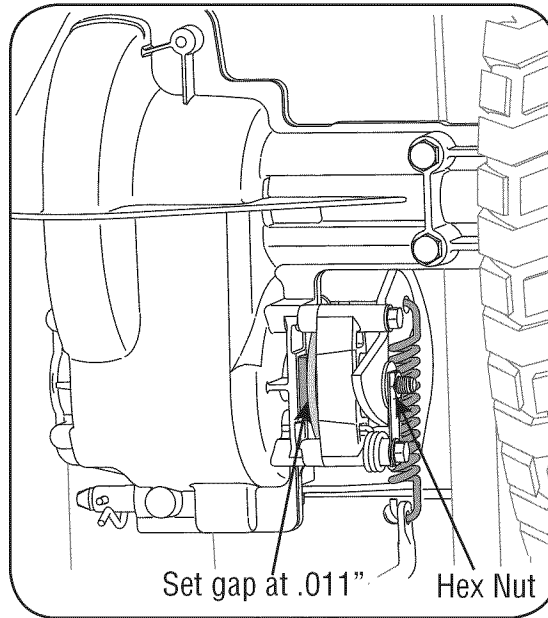

Figure 16
1. Looking at the transmission from the right side of the tractor, locate the compression spring and brake disc. See Figure 16.
2. Loosen, but do NOT remove, the hex nut found on the right side of the brake assembly. See Figure 16.